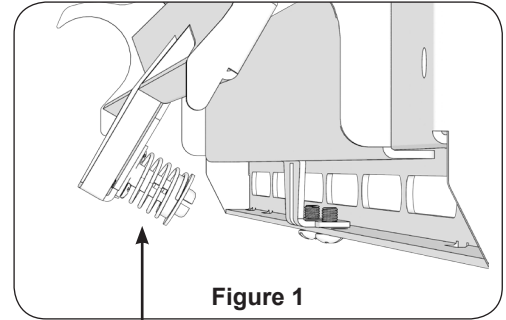

Figure 1
- 3) Mark the straw or toothpick 1/8" above the depth of the threaded insert, as shown in Figure 1.
1. Push evenly in the front of the VMT-MXL to release the single latch spring lock (Figure 1).